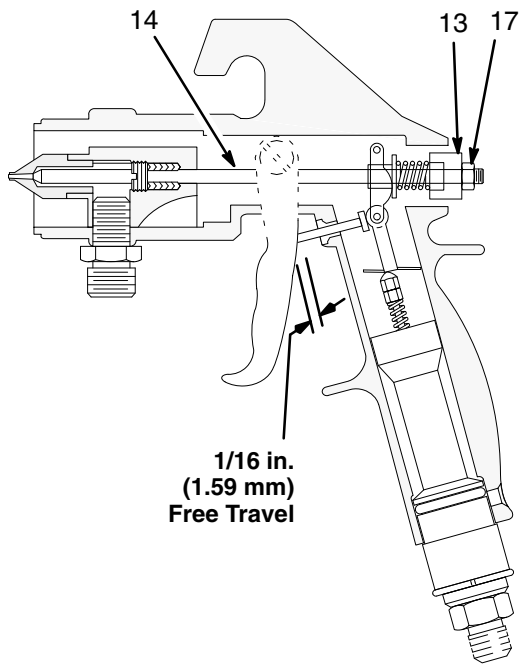

Fig. 25
2. Loosen the locking nut (17) and turn the drum (13). See Fig. 25.
3. Turn the drum (13) until the trigger has about 1/16 in. (1.59 mm) free travel before the needle (14) is engaged and starts to move. See Fig. 25.
4. Lock the adjustment with the locking nut (17).
5. Make sure the spring (23) is in place in the housing (22), then install the housing with the other parts. Hand-tighten the housing.